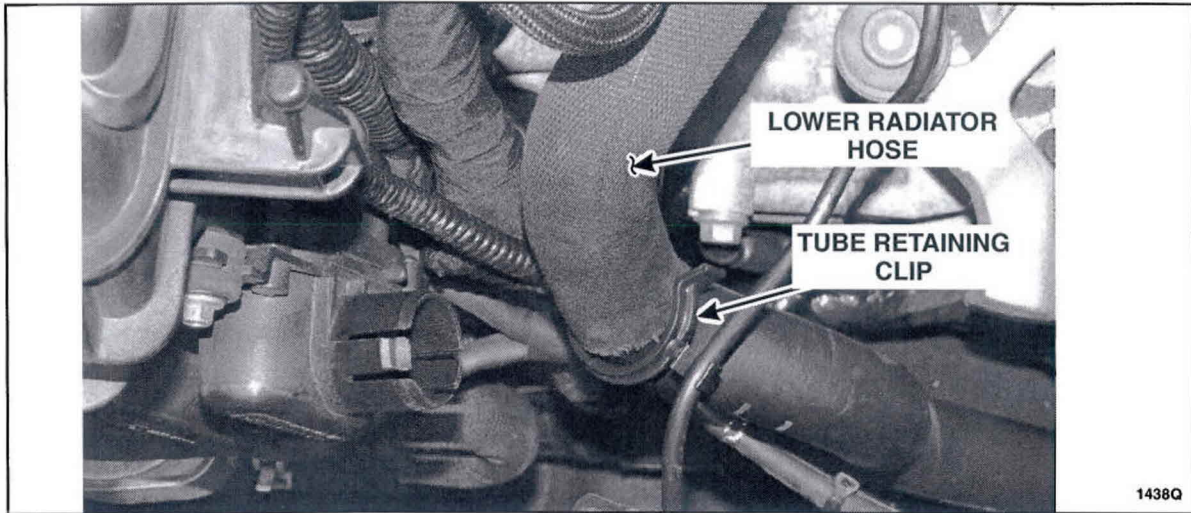

FIGURE 2
21. Connect the two wire harness retainers and connect the TSS sensor. See Figure 2.
5. Detach the tube retaining clip from the lower radiator hose and position the hose aside. See Figure 2.